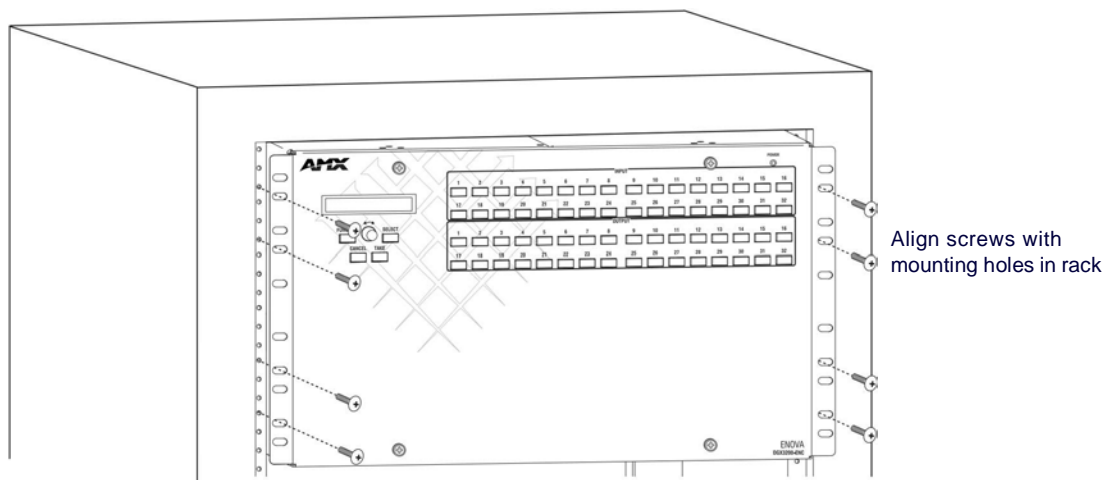

FIG. 16 Rack-Mounting DGX 800/1600/3200 Series Enclosures
11. Lift into position and install the rack ear screws (see FIG. 16).
2. Position the enclosure in the rack, and install the rack ear screws on each side (FIG. 16).